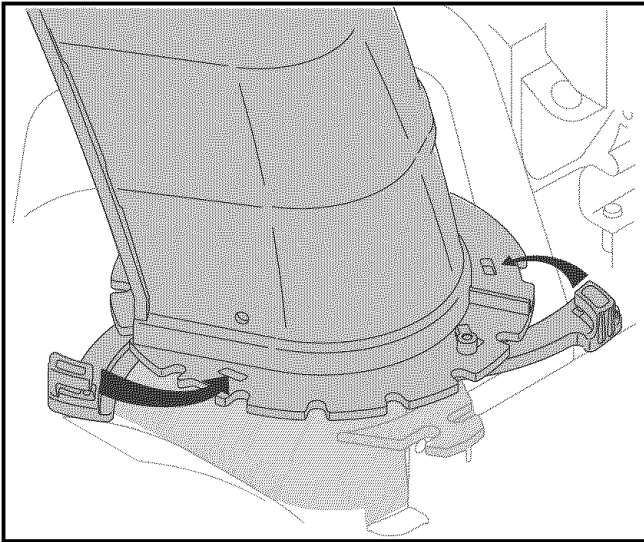

Figure 4
6. Close the flange keepers to secure the chute assembly to the chute adapter. The keepers will click into place when properly secure. See Figure 4.